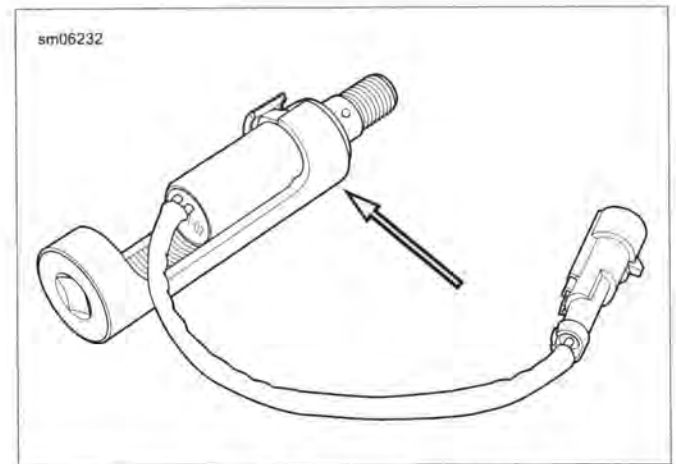

Figure 7-60. ACR Solenoid Socket and ACR
3. See Figure 7-60. Use ACR SOLENOID SOCKET (Part No. HD-48498-A) to remove the ACR from the cylinder head.
5. See Figure 7-60. Using ACR SOLENOID SOCKET (Part No. HD-48498-A), tighten to 13-17 ft-lbs (17.6-23.0 Nm).